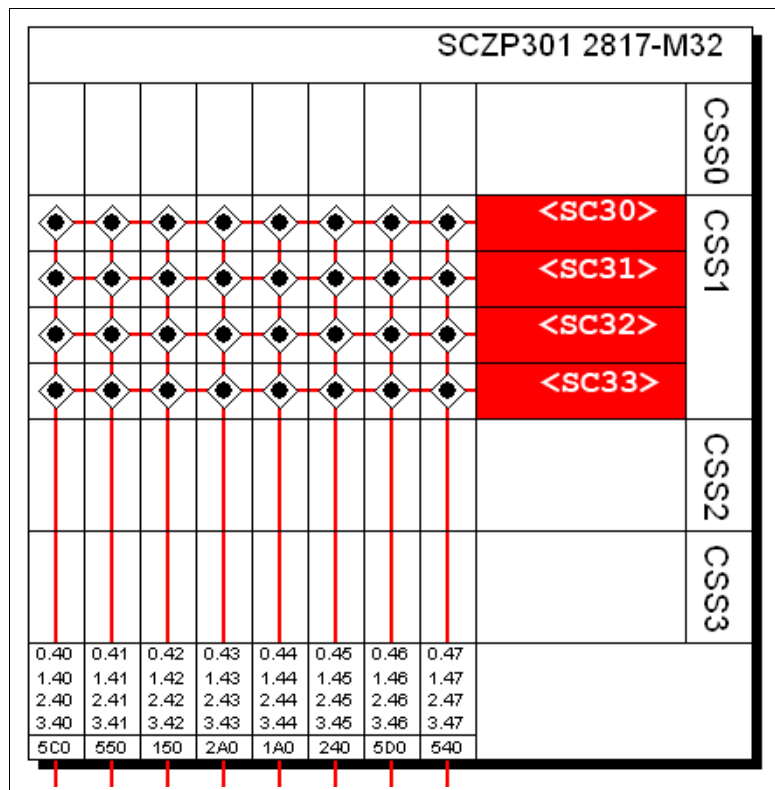

Figure 6-14 HCM Processor display
3. Double-click the required processor in the list (for example SCZP301). See Figure 6-14.